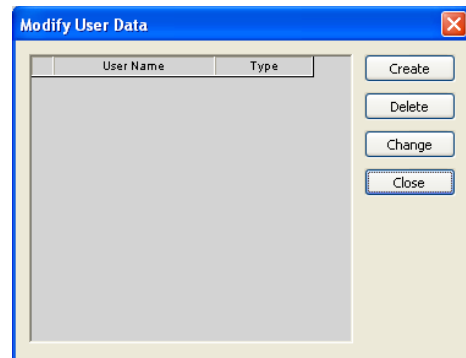

Figure 2
1. Click the USER INFO icon in the tool bar to display the Modify User window (Fig 2).